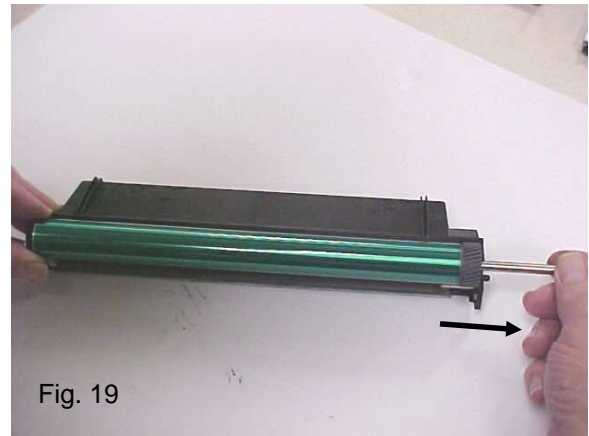

Fig. 19
19. Pull the drum axle out towards the direction of the OPC drum drive gear (grey colored gear) (Fig. 19).